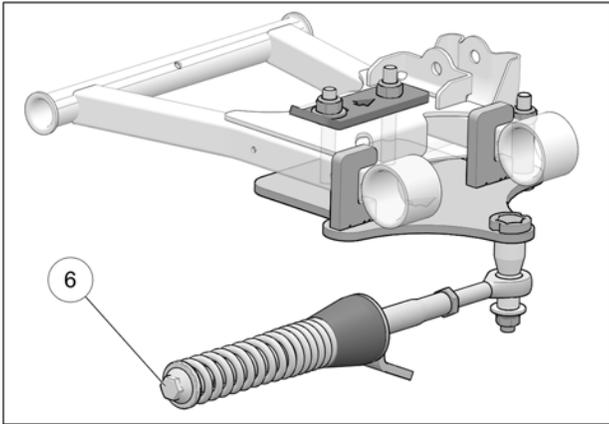

Fig. 15
13. Verify that spring assembly bolt (6) is tightened to the recommended torque specification: 75 N•m [55 lb•ft]. Refer to Fig. 15